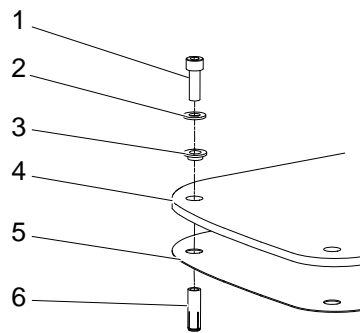

Fig. 4-43 Temporarily attachment
14. Mount the insulation plate (5) between the plate and the floor.
16. Drill 1 hole (C) in accordance with Fig. 4-43 *Temporarily attachment*.